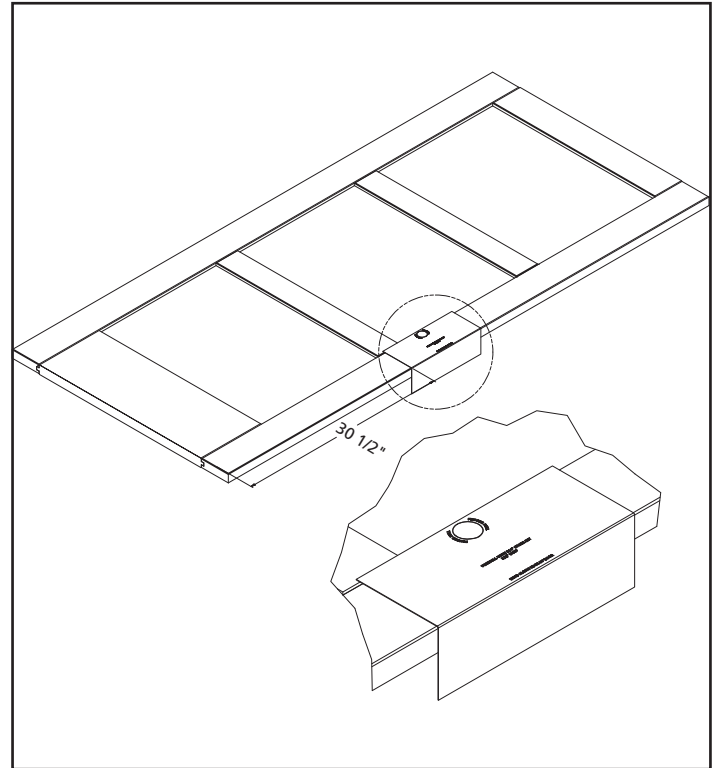

Figure 8. Aligning Finger Pull Drill Guide to Door.
2. Fold as indicated on guide and wrap guide around door, placing the guide on the backside of the door, aligning the bottom edge 30 1/2" above the bottom of the door as shown in Figure 8.